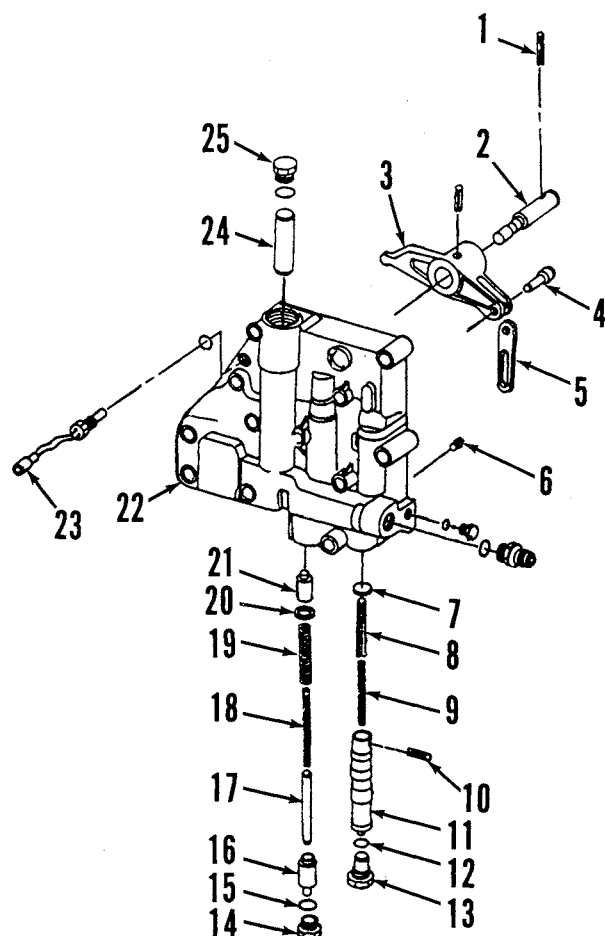
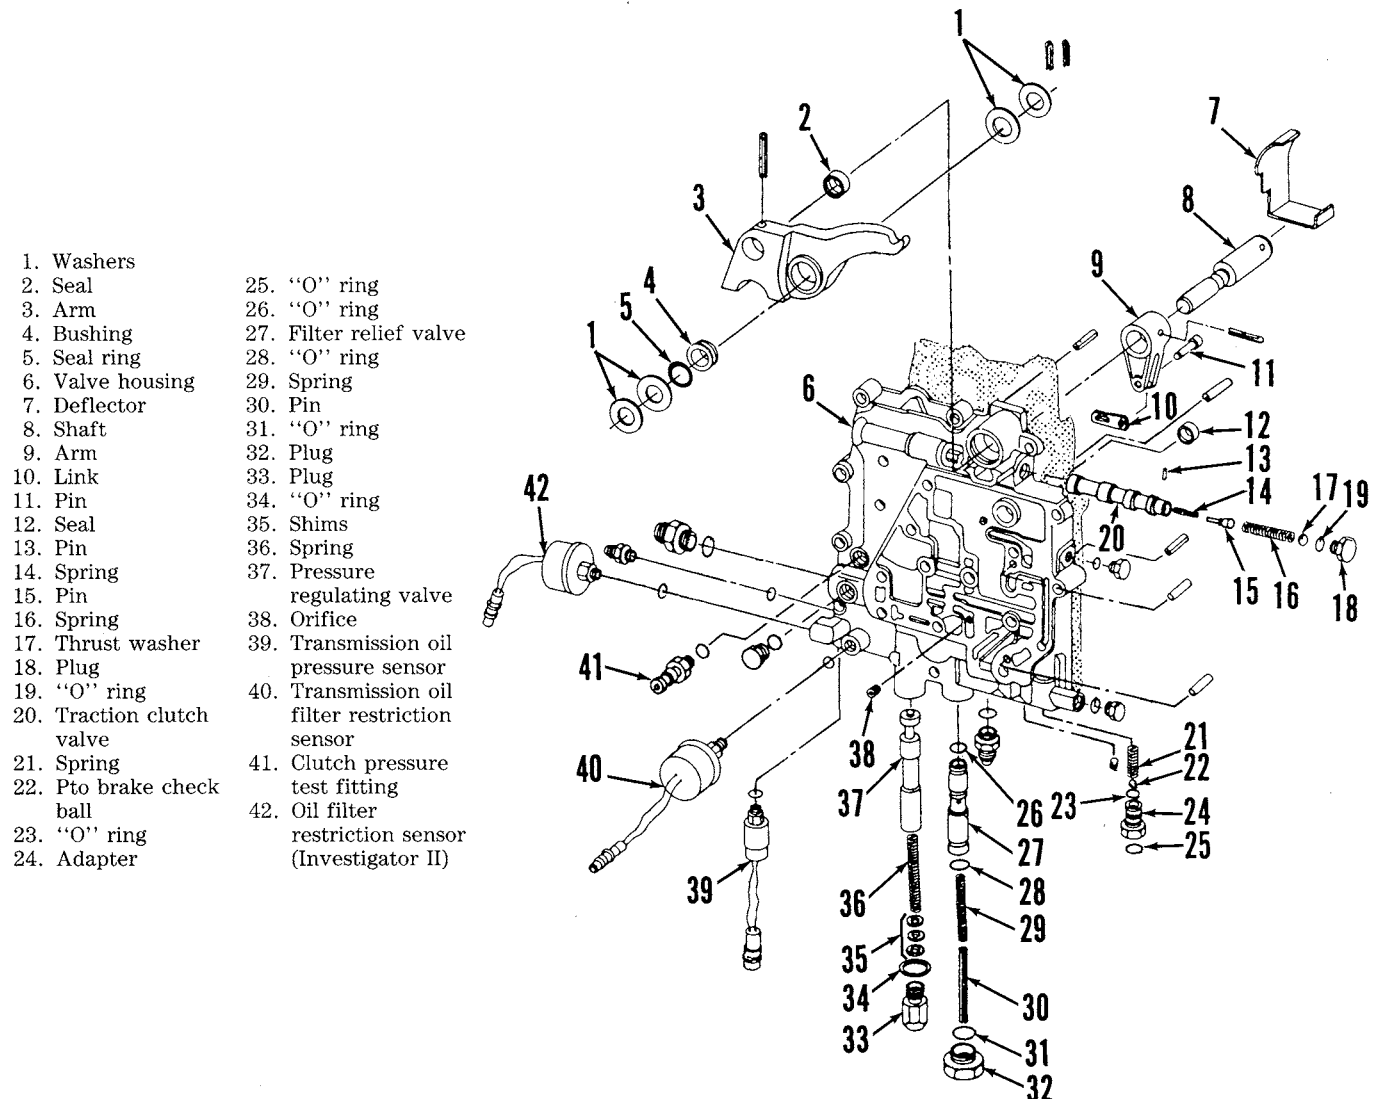

Fig. 156—Exploded view of pto clutch control valve housing assembly. Housing is mounted to outside of traction clutch valve housing.
Fig. 157—Exploded view of traction clutch valve housing used on Power Shift models.
136. TRACTION CLUTCH AND PTO CONTROL VALVES. The pto control valve housing (Fig. 156) is mounted on traction clutch valve housing (Fig. 157). Refer to paragraph 129 for removal and installation information.
To disassemble pto control valve, drive spring pin from pto control arm. Remove retaining cap screws, then separate transmission pump and pto valve housing from traction clutch valve housing. Remove pin (4—Fig. 156) and pin (10), then remove arm (3) and link (5). Remove plug (13), then withdraw pto control valve (11) and related components. Remove modulating valve pistons (16 and 21) and related components. Remove pto lock piston (24).
Valve spools must slide smoothly in their bores and must not be scored or excessively worn. Refer to Fig. 156 and check valve springs for distortion and against the values that follow:
To disassemble traction clutch valve, remove transmission pump from housing if not already removed. Remove plate from back side of valve housing. Drive spring pin from clutch control arm (3—Fig. 157), then remove arm and deflector (7). Remove pin (11) and pull control arm (9) and shaft (8) from housing. Remove pin (13) and link (10). Remove plug (18) and withdraw valve spool (20) and related parts. Remove adapter (24) and pto brake check valve ball (22) and spring (21). Remove plug (32), pin (30) and spring (29). Use JDG-268 removal tool or other suitable tool to pull filter relief valve (27) from housing. Remove plug (33) and withdraw shims (35), spring (36) and pressure regulating valve (37).
Make certain valve spools slide smoothly in their bores. Refer to Fig. 157 and check valve springs for distortion and against the values that follow: